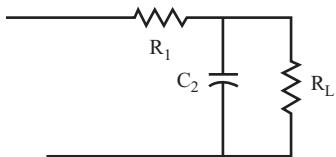

FIGURE 11.44
- 24** In most cases, the level of the AC ripple is still too high, and further smoothing is required. Figure 11.44 shows the portion of the half-wave rectifier circuit that forms a voltage divider using R_1 , and the parallel combination of R_L and C_2 . This voltage divider reduces the AC ripple and the DC voltage level.